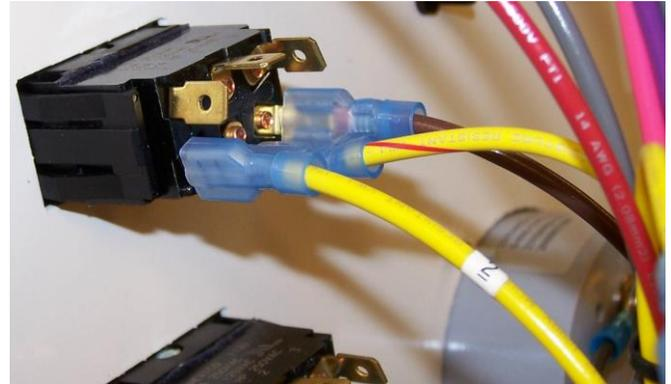

Figure 8
3. The Yellow wire labeled #2 connects to the "FOR/REV" switch (Figure 8). Remove the current yellow wire from the switch and terminal block #15. Connect the new wire to the switch.